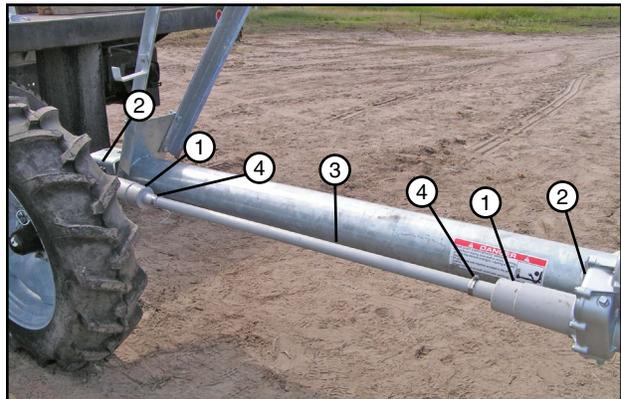

Figure 36-2 1. U-Joint Shield
- Slide the U-joint shield over the U-joint and position approximately 1/4 in away from touching the gearbox. Secure the U-joint shield to the drive shaft shield with a clamp. See figure 36-2.